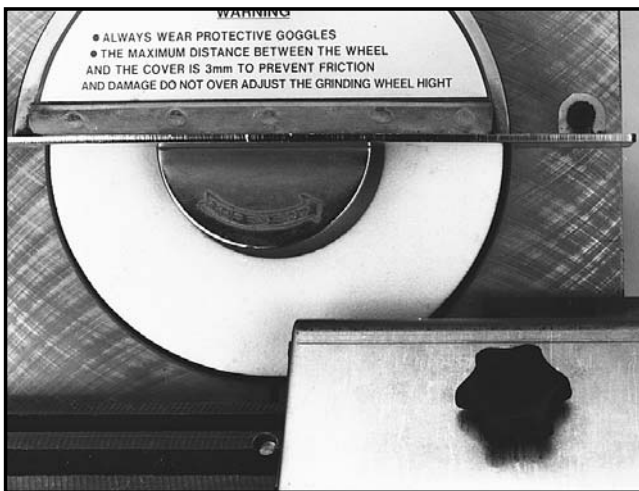

**Figure 6.** Placement of sliding support.
10. Once you are sure you've made proper bevel and alignment adjustments, lower the grinding wheel slightly and turn on the machine. Move the sliding support so the knife is at the right hand side of the wheel. See **Figure 6**.